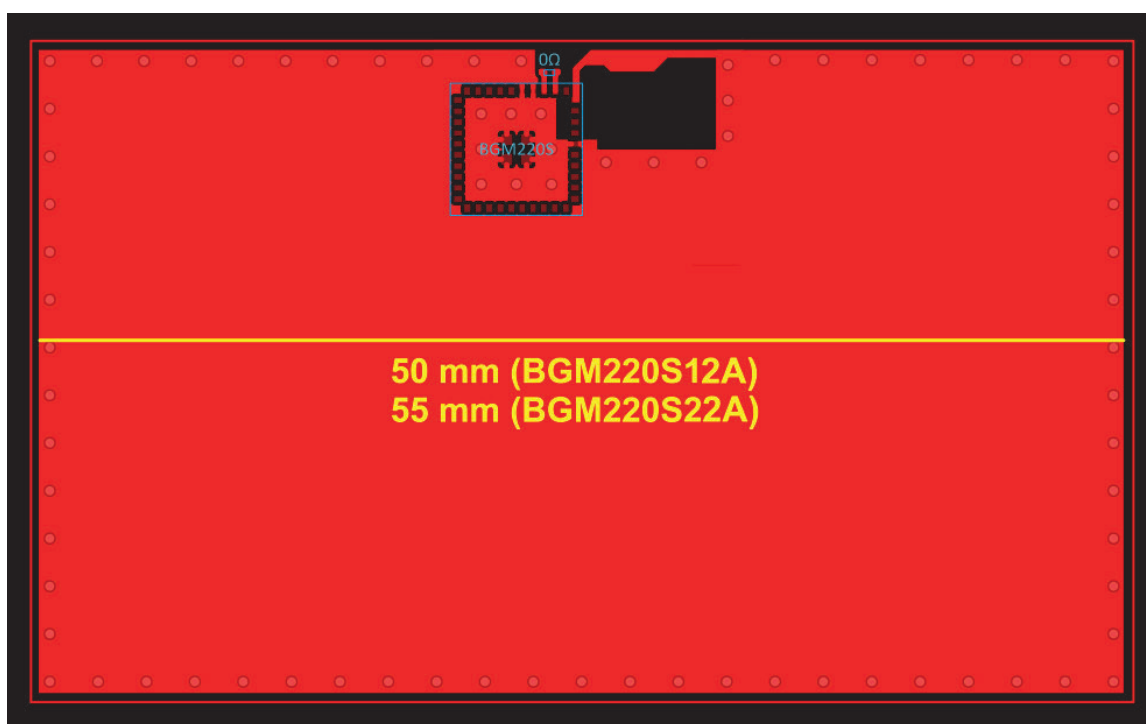

Figure 7.4. Illustration of Recommended Board Width
- To achieve optimal performance, a GND plane width of 50 mm for BGM220S12A or 55 mm for BGM220S22A is recommended as seen on Figure 7.4 Illustration of Recommended Board Width on page 35.